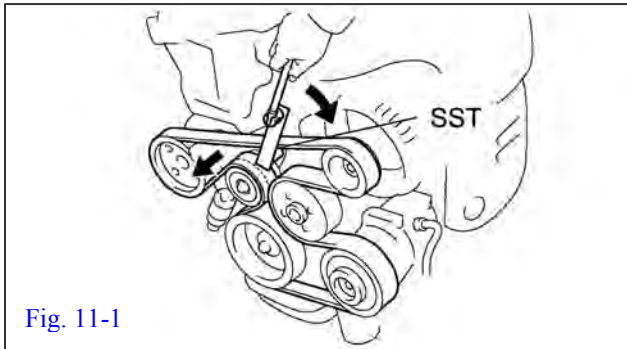

Fig. 11-1
- (a) Remove factory serpentine drive belt. Utilize **SST 09249-63010** leverage tool with 19mm, 6-point socket and lever arm or ratchet. (See Fig 11-1). The tensioner moves slowly. While applying medium tension, allow the tensioner to “float” forward. **CAUTION:** Applying too much tension or forcing the tensioner can cause the assembly to break.